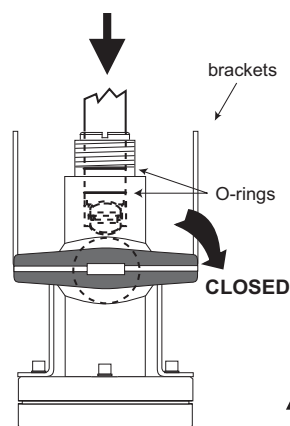

Figure 1
2. Carefully insert the sensor into the 3519 valve assembly until the first two O-rings seat inside the bore (Figure 1).
3. Close the ball valve (Figure 1).